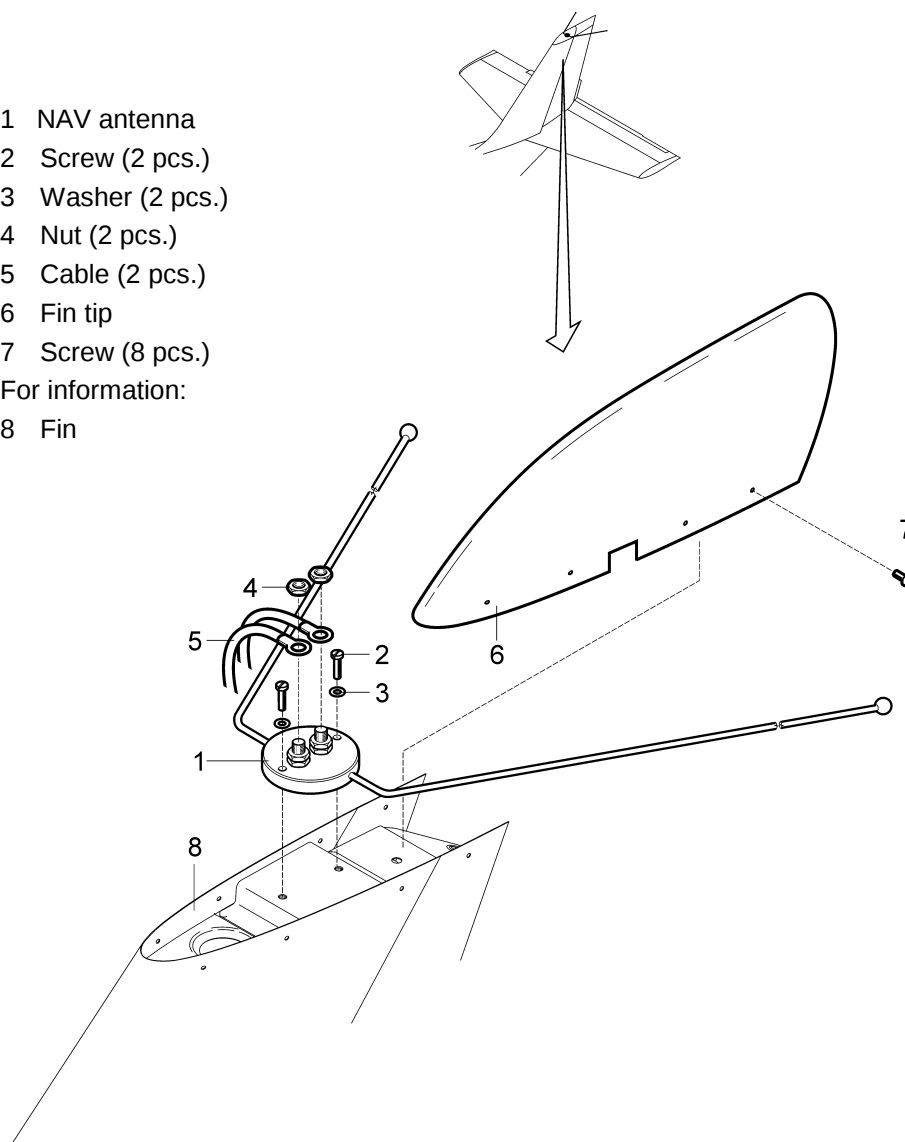

Fig. 12-36: NAV antenna removal / installation
(b) Unscrew the screws (7, Fig. 12-36) and remove the fin tip (6).
- (a) Place the antenna (1, Fig. 12-36) on the bracket and fasten it by means of the screws (2) with the washers (3).
- (b) Connect the cables (5) to the antenna studs; screw and fasten the nuts (4).
- (c) Place the fin tip (6) on the fin (8) and fasten it by means of the screws (7).